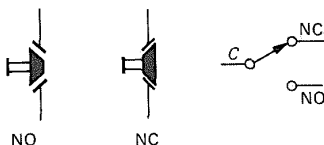

Figure 1.99. Momentary-contact (push-button) switches.
Push-button switches. Push-button switches are useful for momentary-contact applications; they are drawn schematically as shown in Figure 1.99 (NO and NC mean normally open and normally closed). For SPDT momentary-contact switches, the terminals must be labeled NO and NC, whereas for SPST types the symbol is self-explanatory. Momentary-contact switches are always “break before make.” In the electrical (as opposed to electronic) industry, the terms form A, form B, and form C are used to mean SPST (NO), SPST (NC), and SPDT, respectively.